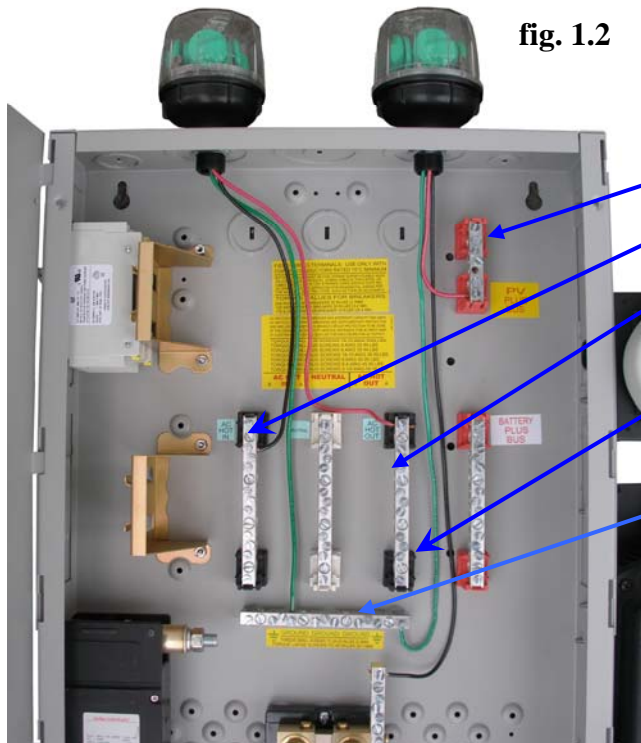

fig. 1.2
2. Identify proper location for the SPD. Locate the unit as close as physically possible to the panel being protected and as close to the electrical connection as possible. Avoid excess lead lengths and the need for sharp bends in the wires. **Refer to fig 1.1 and fig 1.2 as an example.**
4. Connect phase conductors. The phase wires are black and red in color. The orientation is not critical to the operation. (AC) With the POWER OFF, connect one wire to AC HOT IN (line) and other wire to AC HOT OUT (load) as shown in **fig. 1.2** (DC) connect the red wire to PV + and the black wire to PV - or battery minus. PV combiners get installed as shown in **figure 1.1**